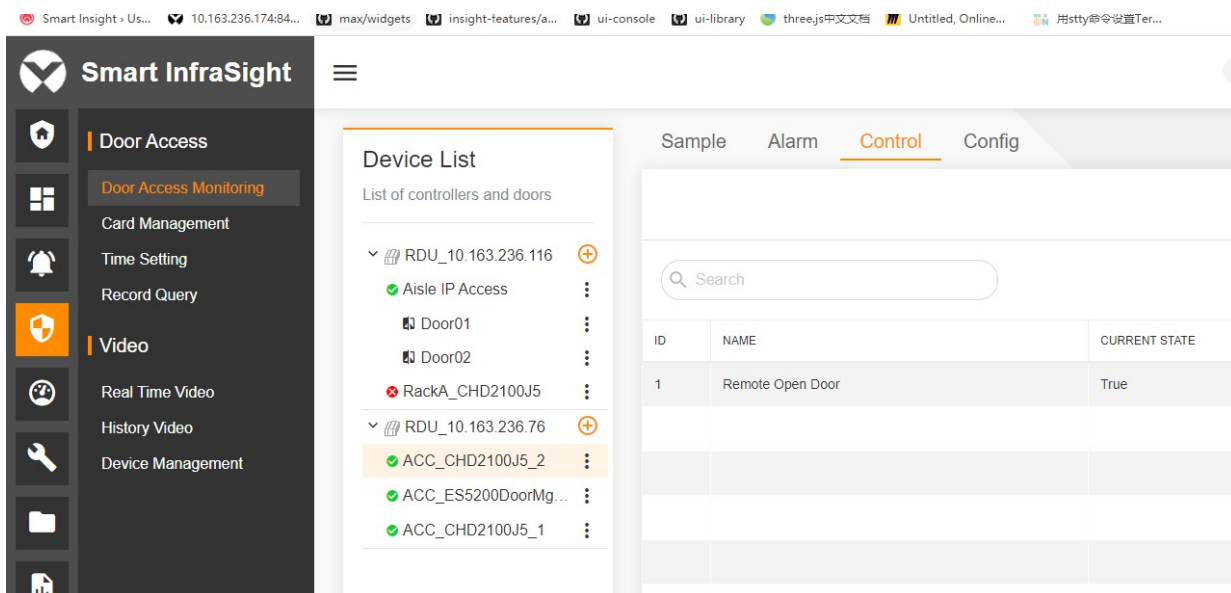

Figure 13-28 Control command - Door
1. On the **Door Access Monitoring** page, select an IP access controller, a door connected to the IP access controller, or a serial access controller. Click the **Control** tab on the right side. The system lists the control commands of the selected device, as shown in Figure 13-28.